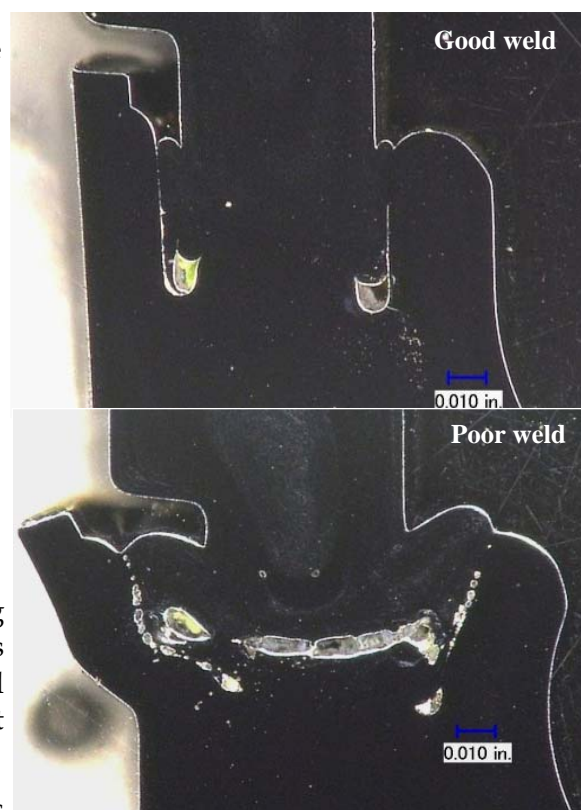

Figure 1: Ultrasonic weld cross-sections.
- Plastic welds (Figure 1)
- Suspected void regions (Figures 1, 3, and 6)